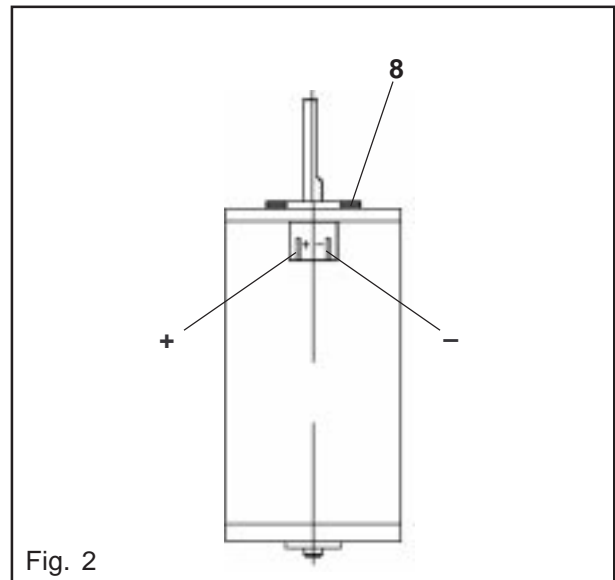

Fig. 2
**Make sure not to lose the spacer ring (8). (Fig. 2)**